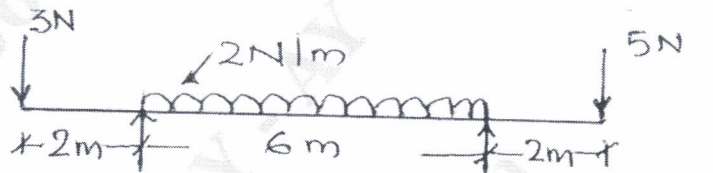

Fig.Q.5(b)
- b. For the beam shown in Fig.Q.5(b), draw SFD and BMD indicating salient values. Find the point of contraflexure, if any. (14 Marks)